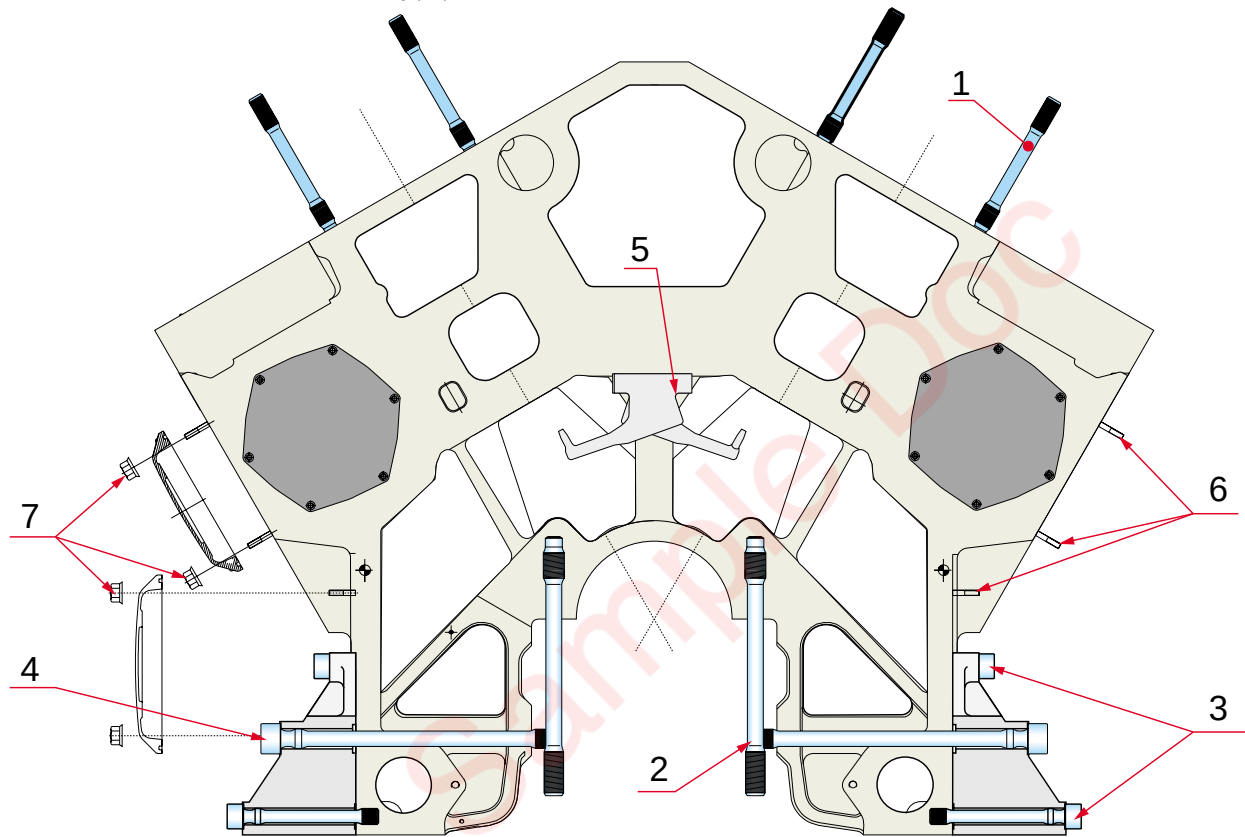
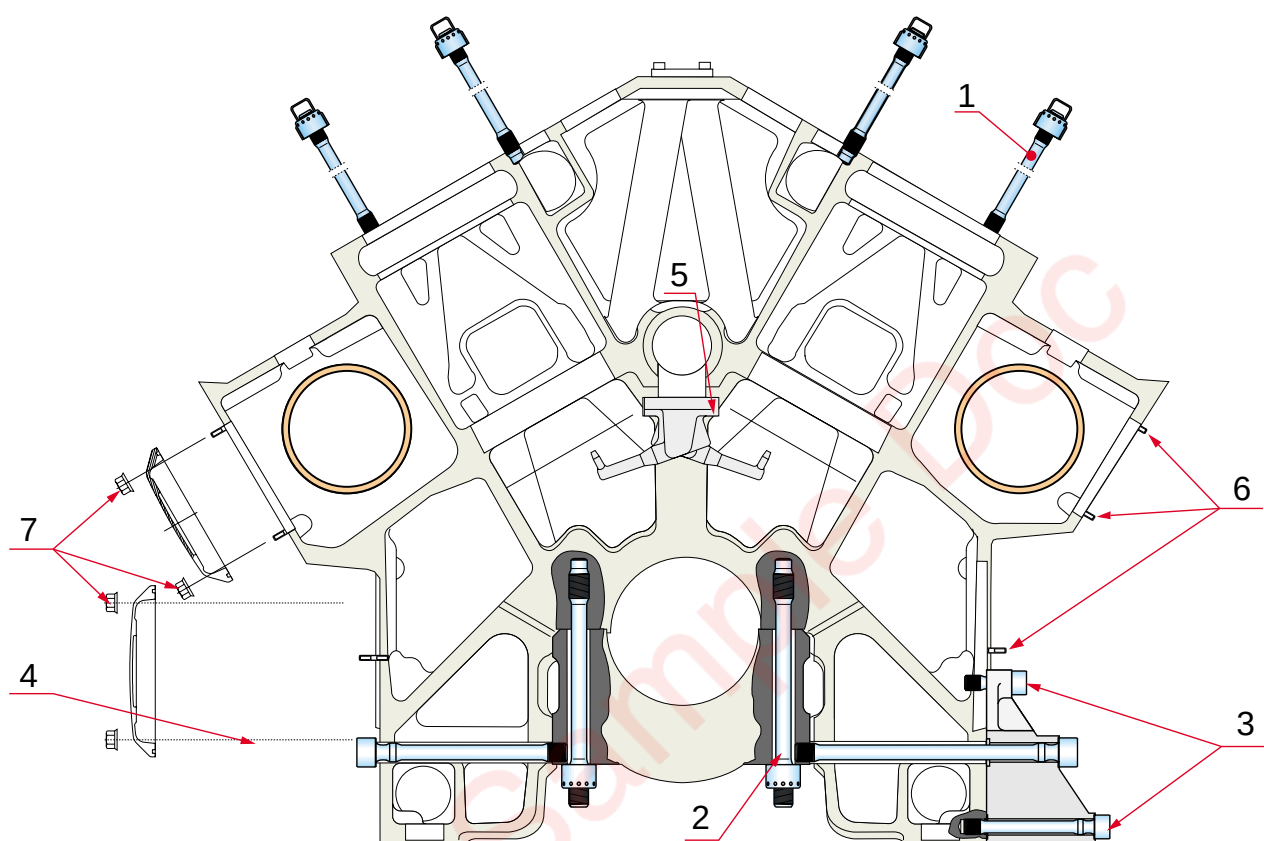

Fig. 07-6
Fig. 07-7
a) Engine block for W12V220 see Fig. 07-6, for W18V220 see Fig. 07-7